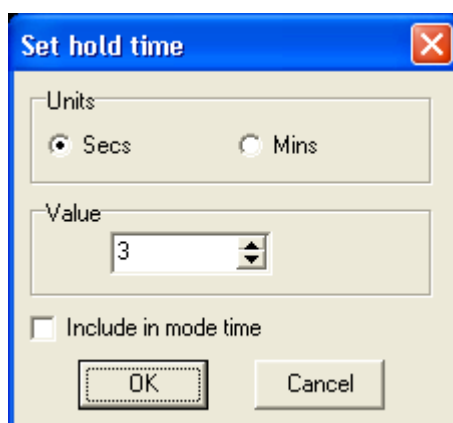

Fig. 2.23 Set hold time
**Pause:** Pause/hold time of each frame. Fig 2.23 shows the interface of Set Hold time.